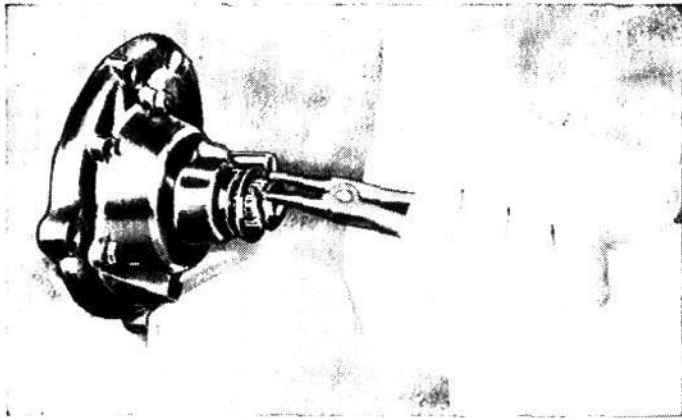

Fig. 30
- Op. 3. Fit the washer and circlip, after having ascertained that the oil seal is fitting perfectly in its seat (fig. 30).